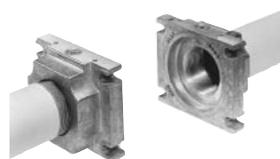

Fig. 30
1. Mount flange onto tube lines: use appropriate sealing agent (see Fig. 30);
2. insert MB-DLE: note position of O rings (see Fig. 30);